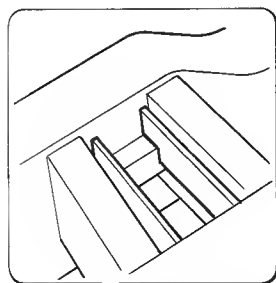
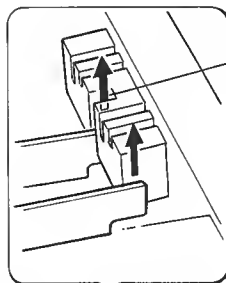
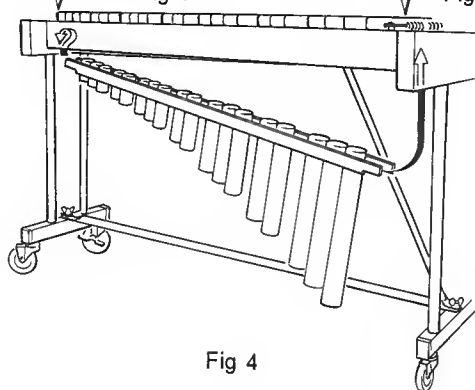

Fig 5
Fig 6
Fig 4
- ⑤ Insert the resonators from the bottom side of the instrument. (Fig 4) Place the resonators on the treble side first, then on the bass end. (Fig 5) When placing the resonators on the bass end, slide them through the groove in the center of the resonator holder. (Fig 6)